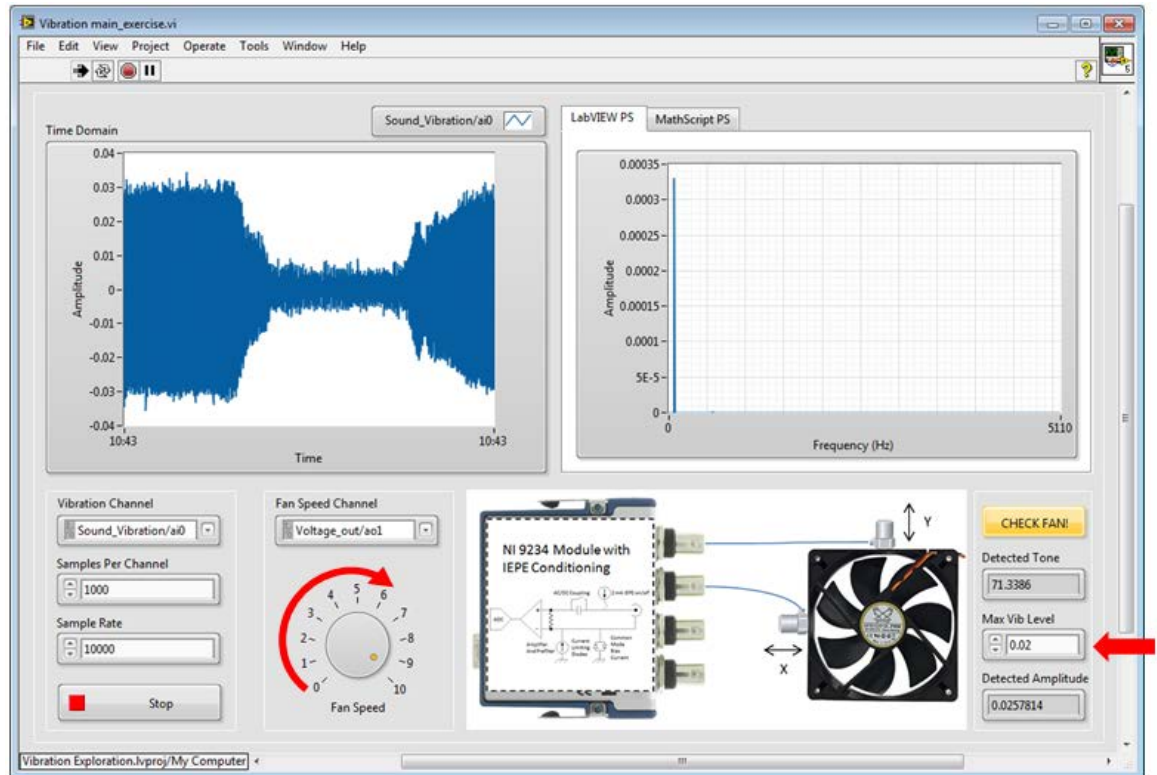

Figure 52. This VI should behave just like the solution you opened at the beginning of the exercise.
11. If you cannot get the fan alarm to light, try reducing the Max Vib Level input (shown in Figure 52).